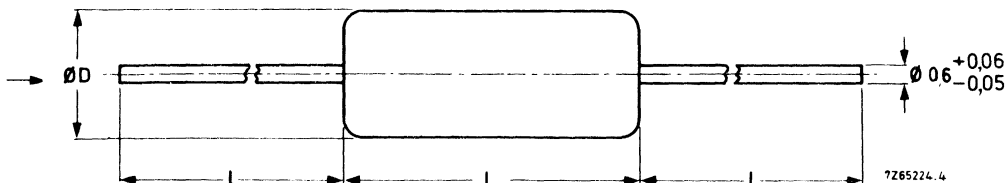

Fig. 1 Capacitors 2222 424 - 431.
Table 1 U_R (DC) = 63 V; max. AC voltage = 25 V; Fig. 1
Table 2 U_R (DC) = 160 V; max. AC voltage = 63 V; Fig. 1
Table 3 U_R (DC) = 250 V; max. AC voltage = 125 V; Fig. 1